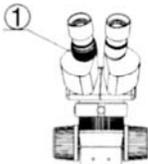

Fig.1
(1) Turn the focusing knob and observe the specimen through the right eyepiece till the image of specimen is clear.
(2) Observe the specimen through the left eyepiece and adjust the diopter adjustment ring ① till the image is clear. (Fig.1)